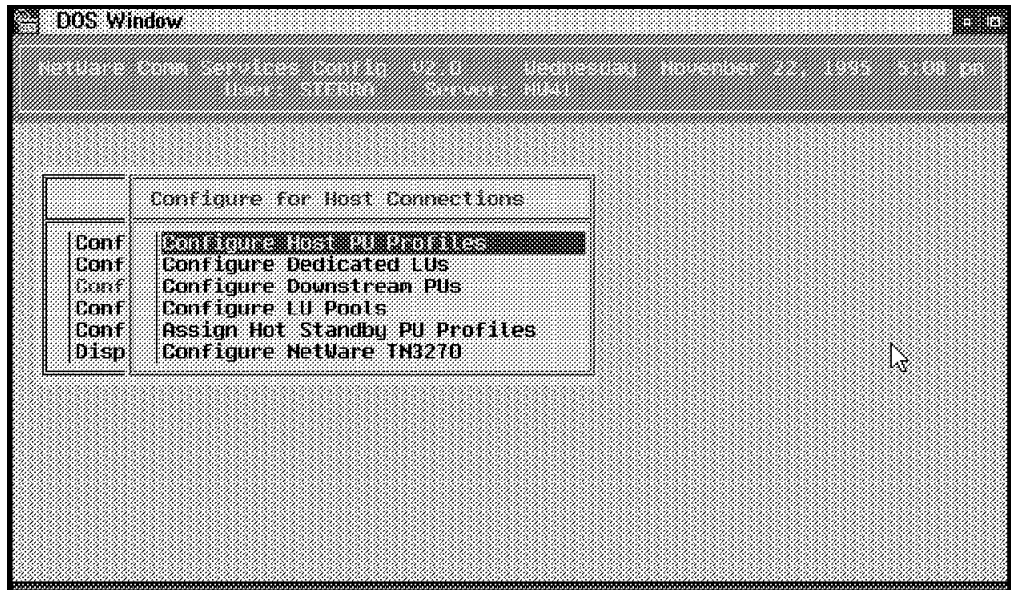

Figure 209. Configuring Host Connections - Main Menu
7. A menu-based panel appears, as shown in Figure 209 on page 208.
Press Esc to leave this panel and go back to the panel shown in Figure 209 on page 208.